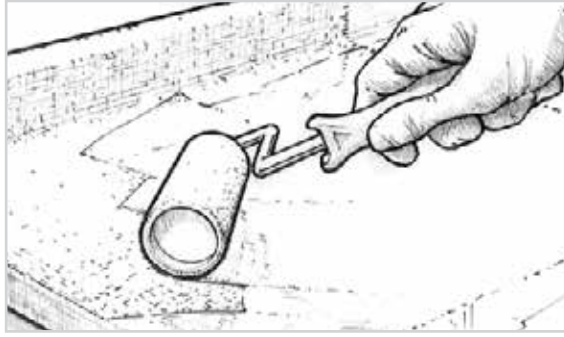

Figure 8-22 Apply the first coat of unthickened epoxy to fill the weave of the cloth before the wet-out coat becomes completely tack free.
9. Coat the surface to fill the weave before the wet-out becomes completely tack free (Figure 8-22). Follow the procedures for epoxy barrier coating under Section 16.4.6. It will take two or three coats to completely fill the weave of the cloth and to allow for a final sanding that will not affect the cloth.